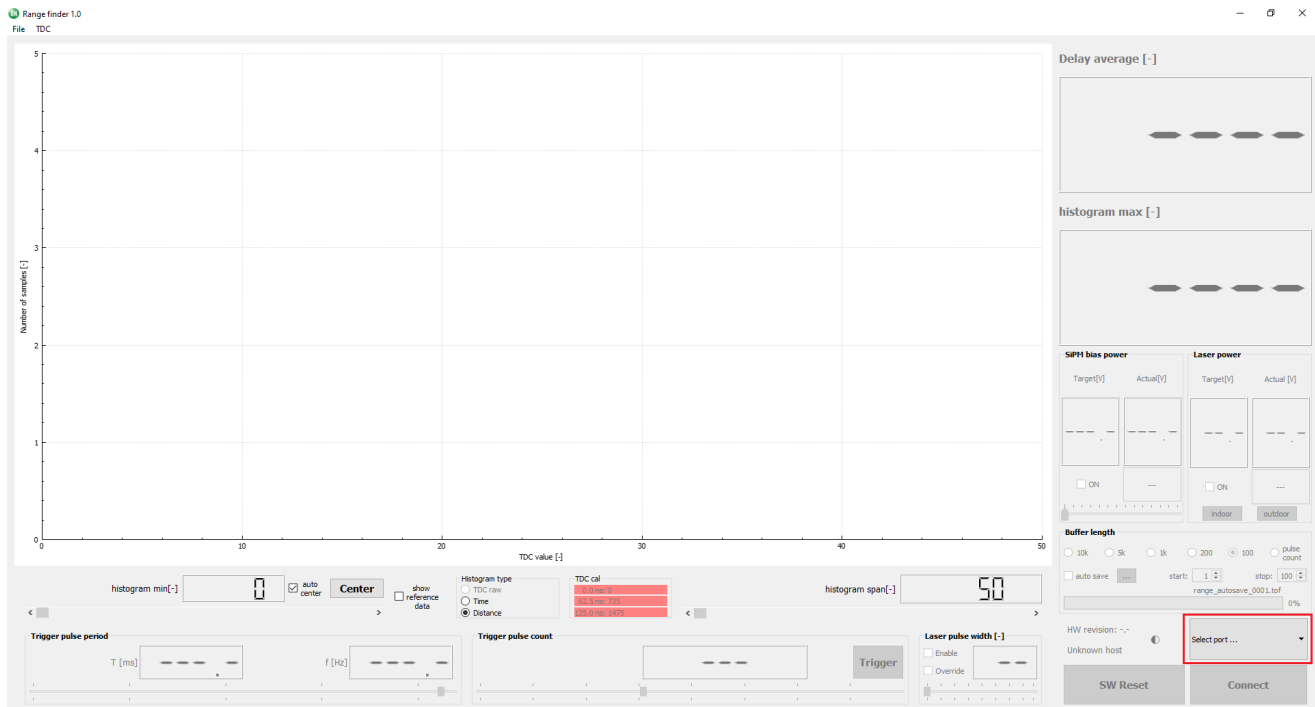

Figure 11. Select Port – Enabling the GUI Application
- Click on *Select port* combo box on the right bottom side of the application and select communication port the board is connected to (Figure 11).